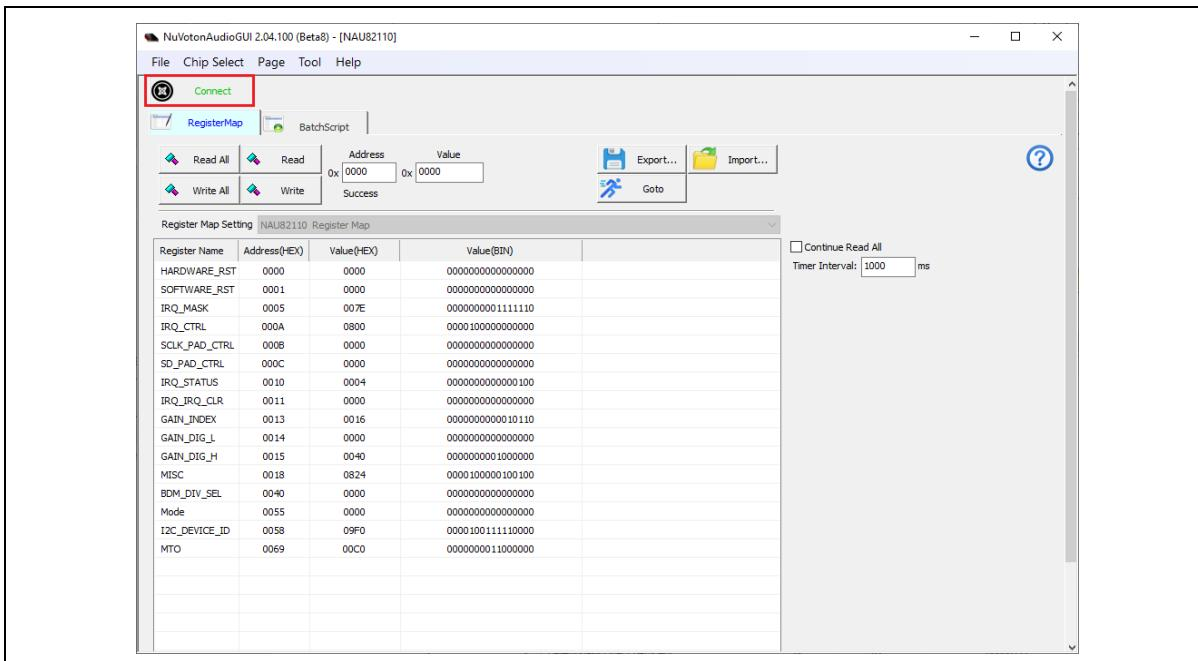

Figure 3-6 NuvotonAudioGUI Operating Step (3)
3. NuvotonAudioGUI will automatically read connection status. If the hardware and software are properly configured, a green [Connect] will appear on the upper left corner of the NuvotonAudioGUI window, as shown in Figure 3-6. Then users can issue I²C commands through NuvotonAudioGUI to control NL-NAU82110.